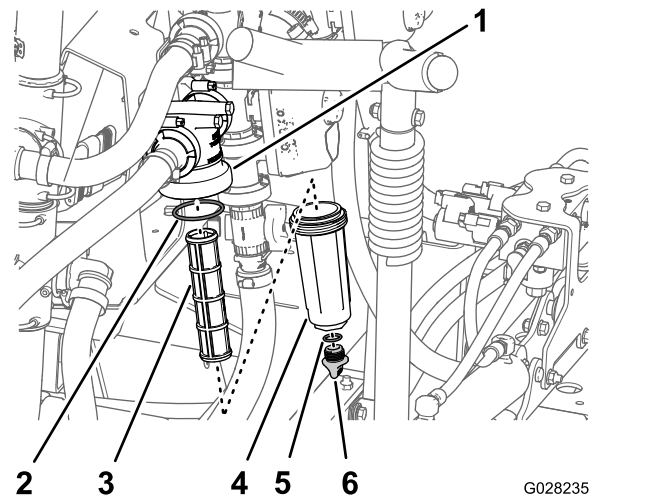

Figure 94
2. Align a drain pan under the pressure filter (Figure 94).
3. Rotate the drain plug counterclockwise and remove it from the bowl of the pressure filter (Figure 94).
4. Rotate the bowl counterclockwise and remove it from its filter head (Figure 94).
5. Remove the old pressure-filter element (Figure 94).
6. Check the O-ring for the drain plug (located inside the bowl) and the O-ring for the bowl (located inside the filter head) for damage and wear (Figure 94).
7. Install the new pressure-filter element into the filter head (Figure 94).
8. Install the bowl onto the filter head and tighten the bowl by hand (Figure 94).
9. Install the plug into the bowl and tighten the plug by hand (Figure 94).